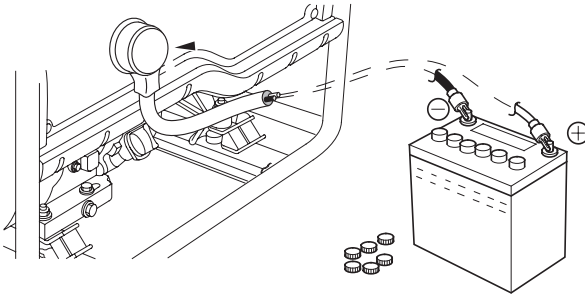

Fig. 7. Switch of accumulating battery to DC source
- Check the liquid level in the accumulator. It should be between the lower and upper marks (Fig. 7).